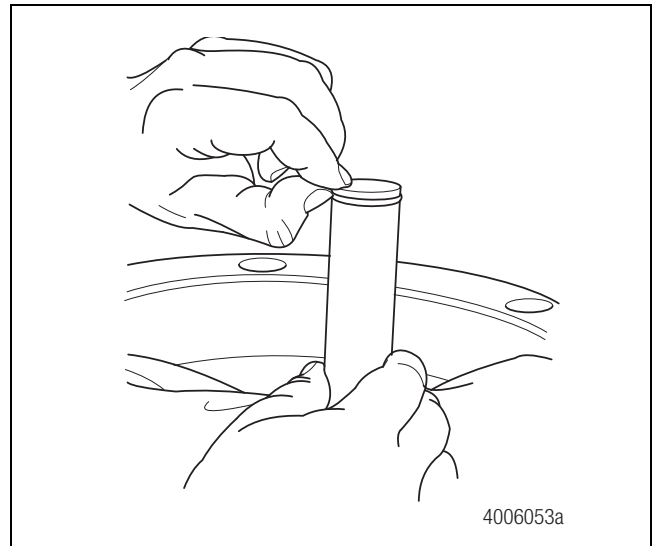

Figure 12.2
3. Grease the new pinion shaft O-rings with PolySi PST-841 lubricant and install them onto the pinion shafts. Figure 12.2.